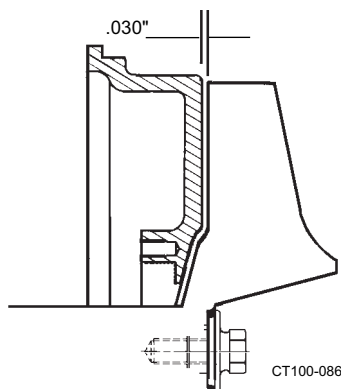

Figure 39 - Shim Placement
6. Temporarily put 0.03" shims between the impeller vane and back plate to a preset clearance. **Be sure to remove the shims before final assembly** (Figure 39).